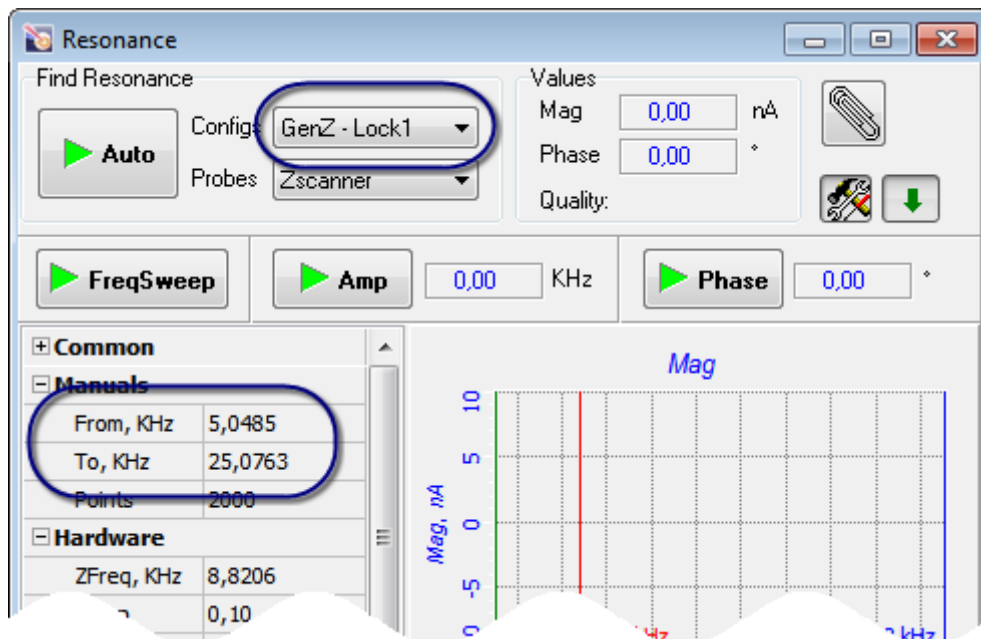

Fig. 7-45. Resonance window
- b) In the **Configs** drop-down list select **GenZ-Lock1** (Fig. 7-45). This option applies AC voltage from a special oscillator to the Z-section of the scanner.
3. Set the operating frequency of the generator at one of peaks in the frequency relation profile by moving the red marker to the desired position. Frequency corresponding to the current position of the marker is shown in the **ZFreq** field of the **Hardware** group (Fig. 7-45).
4. Adjust height of the desired peak to be in the range 2÷5 nA. This can be achieved by varying output voltage of the generator (**ZAmp** parameter) (see Fig. 7-45) or gain of the lock-in detector (**LockGain** parameter).